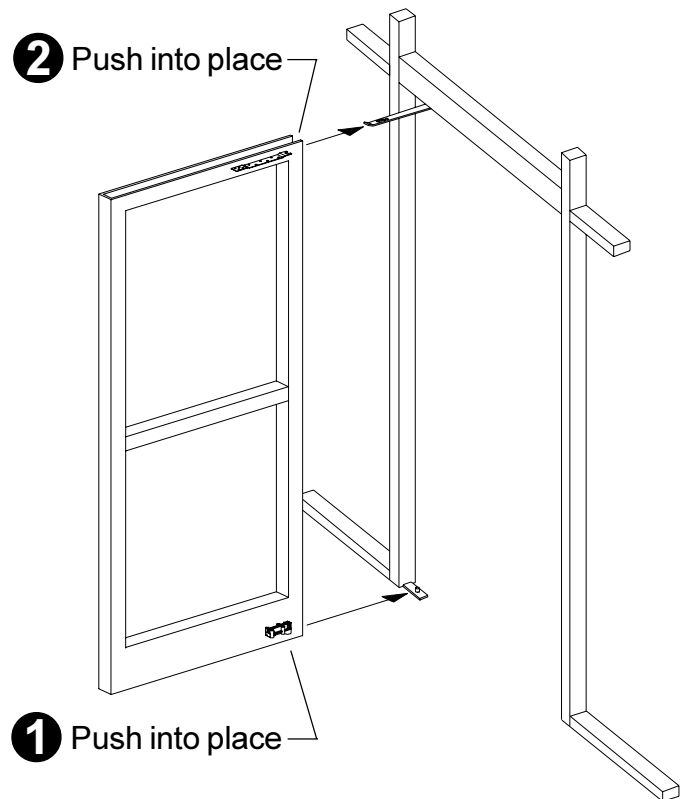

Figure 11-4
11.5. Position the door so the arm is in the top channel of the door and gently slide the door up against the lower pivot (Figure 11-4).